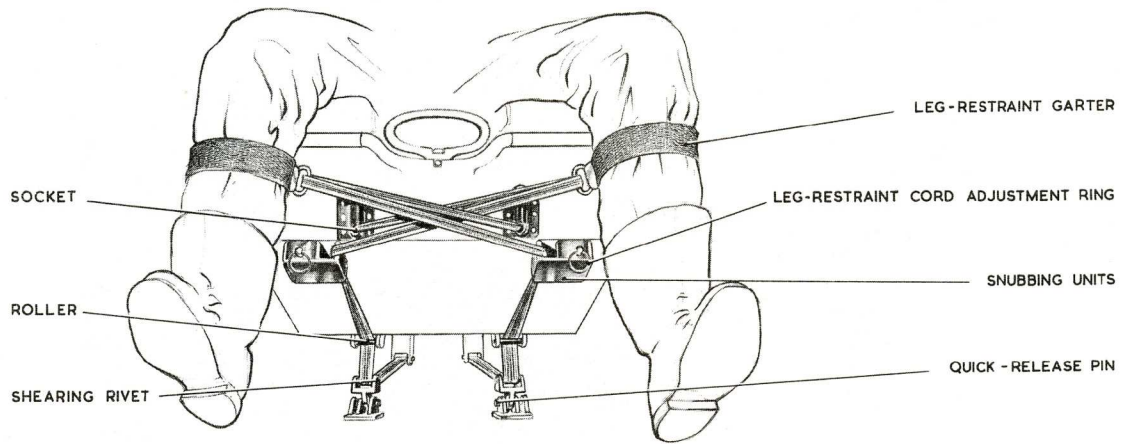

Fig. 6. Arrangement of leg restraint cords
18. The procedure for strapping-in is as follows :- refer to fig. 6, 7, 8 and 9 for detail as necessary :-